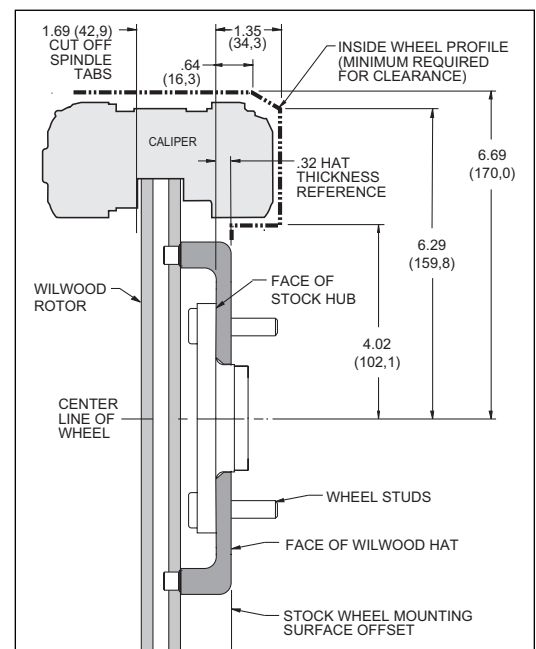

Figure 1. Wheel Clearance Diagram
Before any tear-down or disassembly begins, review the wheel clearance diagram, Figure 1 below to verify that there is adequate clearance with the wheels you will be using with this installation.
- Verify your wheel clearance using Figure 1.